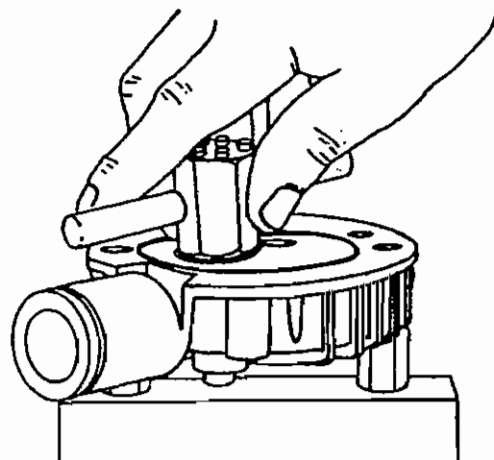
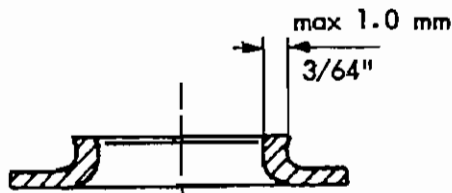

Fig. 11.4 Inlet valve removal
Fig. 11.6 Permissible tolerances, valve seats
- Unscrew and remove the socket set screw (13) and the discharge valve cover (12).
- Remove the spring washer (11) and the o-ring (10). The o-ring should be in perfect condition: undamaged and non-porous. Replace it if necessary.
- Extract the discharge valve assembly (3).
- Discard the valve gasket (5) and replace it with a new one. The valve gasket should always be replaced.
- Inspect the valve seat (6). The sealing surface must be in good condition: devoid of pitting or cracking. The maximum valve seat width is 3/64" (1.0 mm). See fig. 11.6.
- Remove the tube nuts, tubes and ferrules from the tube connections (18 & 21) to the valve head (19) and the inlet connection (not shown).
- Unscrew and remove the hex bushings (26).
- Lift the valve head (19) from the piston cylinder.
- Unscrew the valve cover (16) from the bottom of the valve head using the assembly tool which is provided with the unit. See fig. 11.4.
- Extract the inlet valve assembly (4) and discard the valve gasket (5). Replace the valve gasket with a new gasket.
- Inspect the valve seat (6). The sealing surface must be in good condition: devoid of pitting or cracking. The maximum valve seat width is $3/64''$ (1.0 mm). See fig. 11.6.
- Remove the dome nut (14) and the gasket (13) and inspect the gasket. The gasket should be replaced if it is damaged.
- Unscrew and remove the socket set screw (12) and the discharge valve cover (11).
- Remove the disc spring (10) and the o-ring (9). The o-ring should be in perfect condition: undamaged and non-porous. Replace it if necessary.
- Discard the valve gasket (4) and replace it with a new one. The valve gasket should always be replaced.
- Inspect the valve seat (5). The sealing surface must be in good condition: devoid of pitting or cracking. The maximum valve seat width is $3/64''$ (1.0 mm). See fig. 11.6.
- Remove the dome nut (1) and the gasket (2). Inspect the gasket. The gasket should be replaced if it is damaged.
- Unscrew and remove the socket set screw (3) and the discharge valve cover (4).
- Remove the spring washer (5) and the o-ring (6). The o-ring should be in perfect condition: undamaged and non-porous. Replace it if necessary.
- Extract the discharge valve assembly (7).
- Discard the valve gasket (12) and replace it with a new gasket.
- Inspect the valve seat (11). The sealing surface must be in good condition: devoid of pitting or cracking. The maximum valve seat width is 3/64" (1.0 mm). See fig. 11.6.